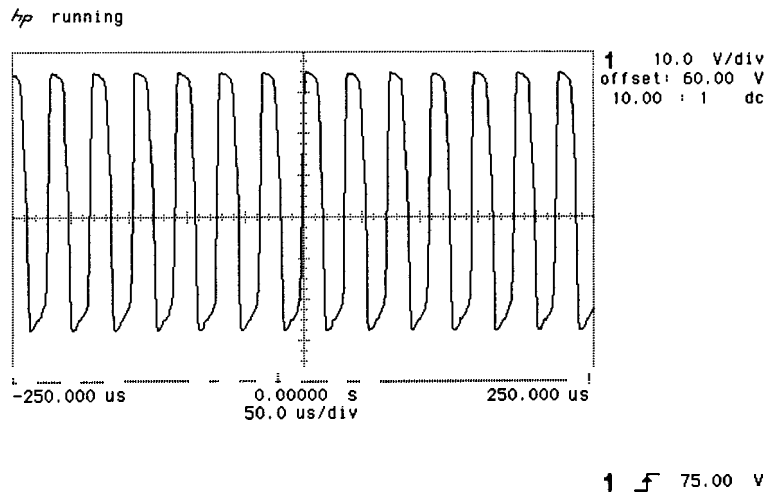

Figure 3-9. CRT Cut-Off Voltage
34. On the oscilloscope, adjust the channel 1 offset voltage as necessary to measure the peak-to-peak CRT cut-off voltage, V_{co} , at **A1A3TP5**. See Figure 3-9. This peak-to-peak voltage should be between 45-75 V_{p-p} . Note this voltage for use in step 39.